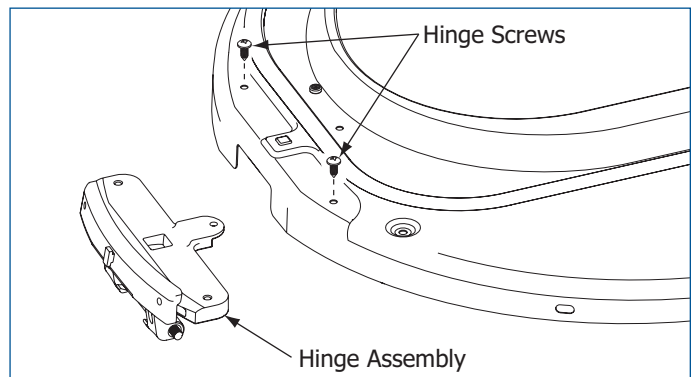

Figure 4-5.
2. Turn the inner door assembly back over and locate the 2 pan head hinge screws. Extract the 2 screws and separate the hinge from inner door assembly. (See Figure 4-5)